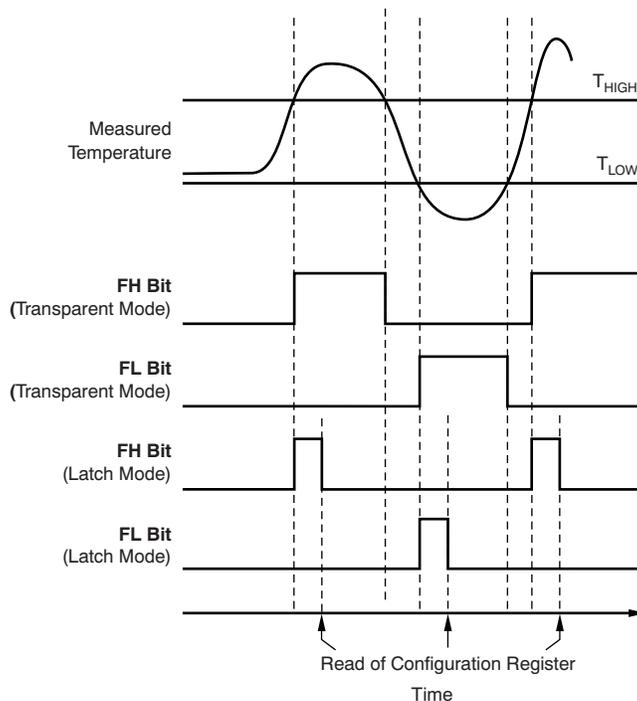

Figure 13. Temperature Flag Functional Diagram
The TMP104 contains a watchdog function that monitors device temperature and compares the result to the values stored in the temperature limit registers ( $T_{\text{HIGH}}$  and  $T_{\text{LOW}}$ ) in order to determine if the device temperature is within these set limits. If the temperature of the TMP104 becomes greater than the value in the  $T_{\text{HIGH}}$  register, then the flag-high bit (FH) in the Configuration Register is set to '1'. If the temperature falls below value in the  $T_{\text{LOW}}$  register, then the flag-low bit (FL) is set to '1'. If both flag bits remain '0', then the temperature is within the temperature *window* set by the temperature limit registers, as shown in Figure 13.
The  $T_{HIGH}$  and  $T_{LOW}$  registers are used to store the temperature limit thresholds for the TMP104 watchdog function. At the end of each temperature measurement, the TMP104 compares the temperature results to each of these limits. If the temperature result is greater than the  $T_{HIGH}$  limit, then the FH bit in the Configuration Register is set to '1'. If the temperature result is less than the  $T_{LOW}$  limit, then the FL bit in the Configuration Register is set to '1'; see Figure 13.